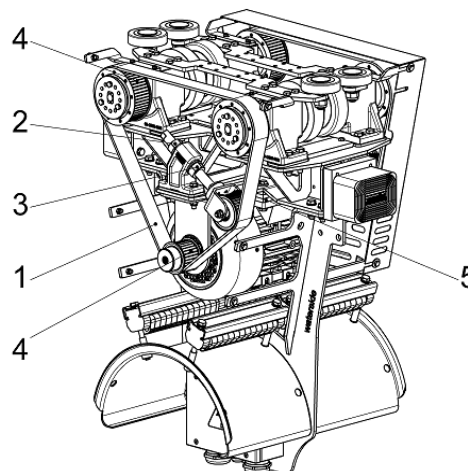

Fig. 2
1. Adjust silent block, if there are welding seams (see Fig. 2)